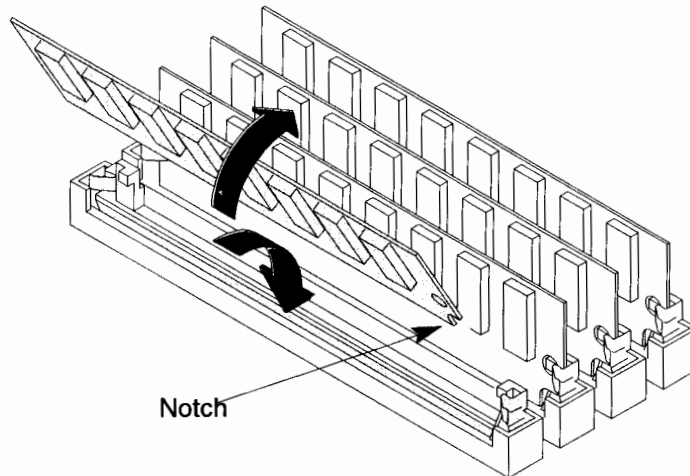

Figure B-44. Installing Memory Boards
3. Install a new memory board with its top edge tilted toward the left side of the system unit. Note that the memory board is notched on one end to fit the keyed connector. Press firmly on the memory board to ensure that it is fully seated. Snap the board into place by moving it to a vertical position. Its ends snap into the connector's spring clips. Figure B-44 shows how to install a memory board.